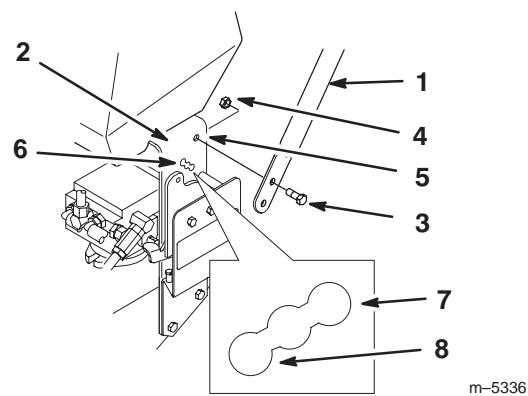

Figure 3
- Align upper handle with upper mounting holes in rear frame (Fig. 3).
- Secure each upper mounting hole with a flange bolt (3/8 x 1 in. (26 mm)) and flange nut (Fig. 3). Torque bolts to 25 ft. lbs. (34 N.m).
- Select high, medium or low position for the lower mounting hole (Fig. 3). This allows the upper handle to be adjusted to the user's height preference.
- Secure each lower mounting hole with a flange bolt (3/8 x 1 in. (26 mm)) and flange nut (Fig. 3). Torque bolts to 25 ft. lbs. (34 N.m).